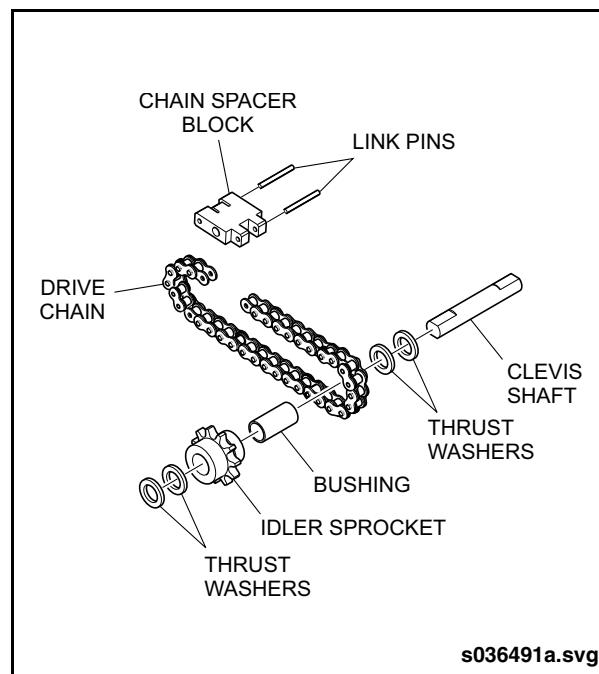

Fig. 20-16: Chain Spacer Block Installation
5. Connect the end links of the chain to the spacer block using two pins. See "Fig. 20-16: Chain Spacer Block Installation" on page 24.